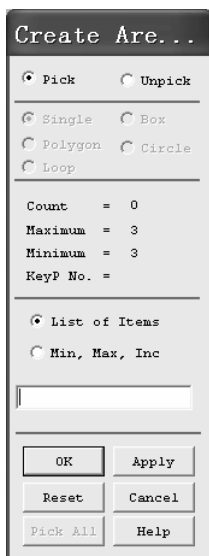

图 2-30 “Create Are...” 窗口
(4) 依次选择 Main Menu>Preprocessor>Modeling>Create>Areas>Arbitrary>Through KPs, 弹出 “Create Are...” 窗口 (见图 2-30)。